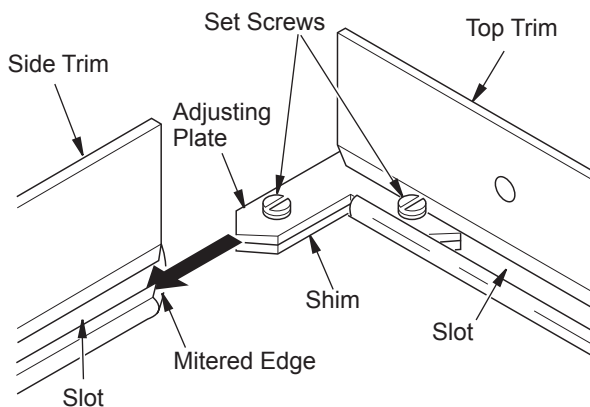

Figure 1 - Assembling Trim
3. Align shim under adjusting plate as shown in Figure 1.
4. Slide one end of adjusting plate/shim in slot on mitered edge of top trim (see Figure 1).
5. Slide other end of adjusting plate/shim in slot on mitered edge of side trim (see Figure 1).